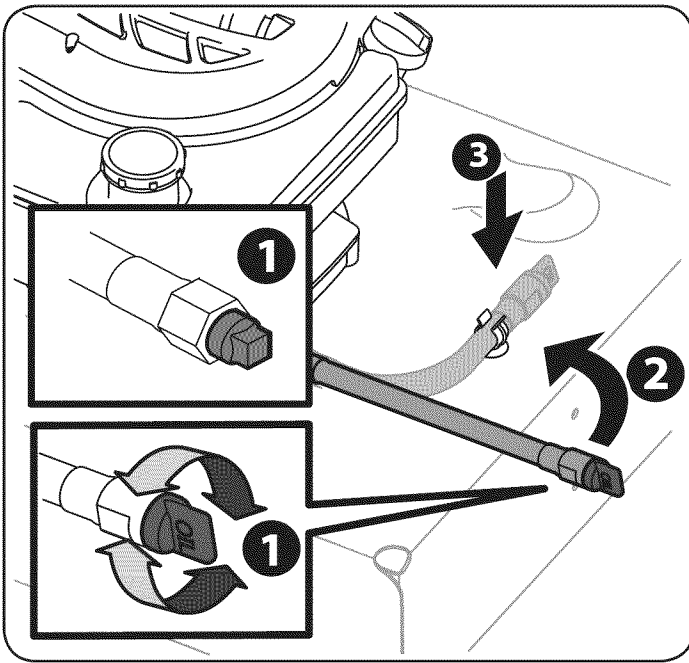

Figure 18
NOTE: The engine is equipped with either a plastic twist-off or metal square head cap. Refer to Figure 18 insets.
4. After the oil has finished draining, screw the cap back onto the end of the oil drain hose. See Figure 18 inset.
1. Position the hose back over the deck, then press the hose back into place on the deck. See Figure 18.